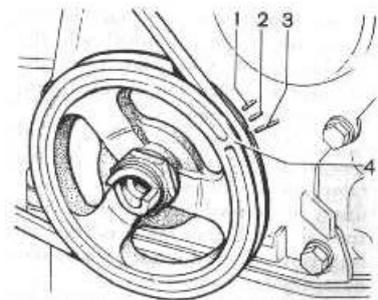

Fig 42. Timing marks on pulley and valve gear drive cover. 1- 10°, 2- 5°, 3- 0°, 4- mark on pulley
- Turn on the ignition and slowly rotate the crankshaft with the starting crank; with the ignition set properly, the test lamp should come on when mark 4 (Fig. 42) on the crankshaft pulley is aligned with mark 2 on the timing gear cover, and the contact of rotor 2 (Fig. 41) should be opposite the contact of the No. 1 cylinder on the distributor cap.
- Rotate the crankshaft with the starting crank to set it in the position at which the rotor contact faces the contact of the No. 1 cylinder on the distributor cap, and mark 4 (Fig. 42) is aligned with mark 2 (in this position the piston of the No. 1 cylinder will be 5" before TDC as measured in crankshaft degrees);